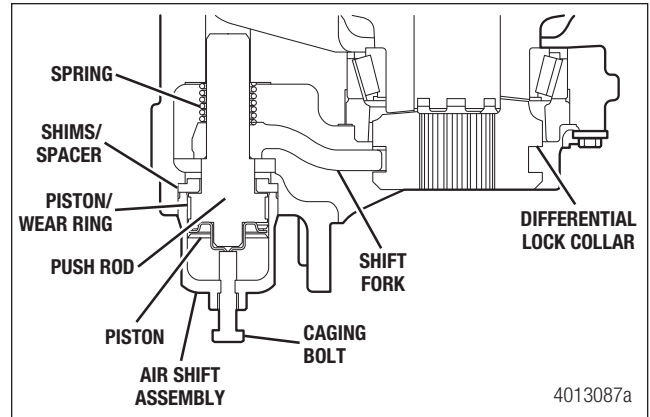

Figure 7.3
4. Install the caging bolt into the threaded hole in the center of the DCDL cover. Figure 7.3.
5. Turn the caging bolt to the right until the head is approximately 0.25-0.50" (6-13 mm) from the cylinder cover. Do not turn the caging bolt beyond its normal stop. Figure 7.3. A high resistance on the caging bolt indicates the splines of the shift collar and the differential case half are not aligned or engaged. To align the splines, use the following procedure: